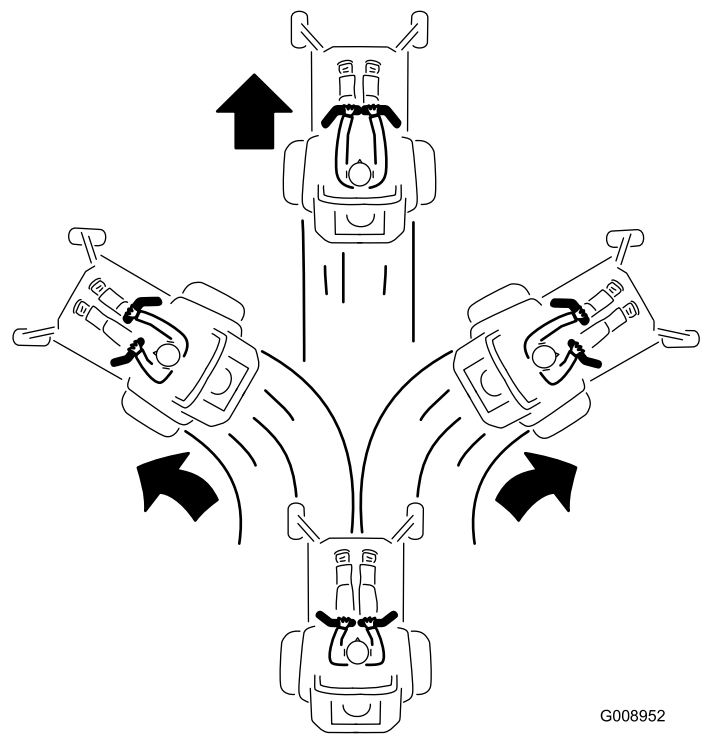

Figure 26
3. To go forward, slowly push the motion-control levers forward (Figure 26).